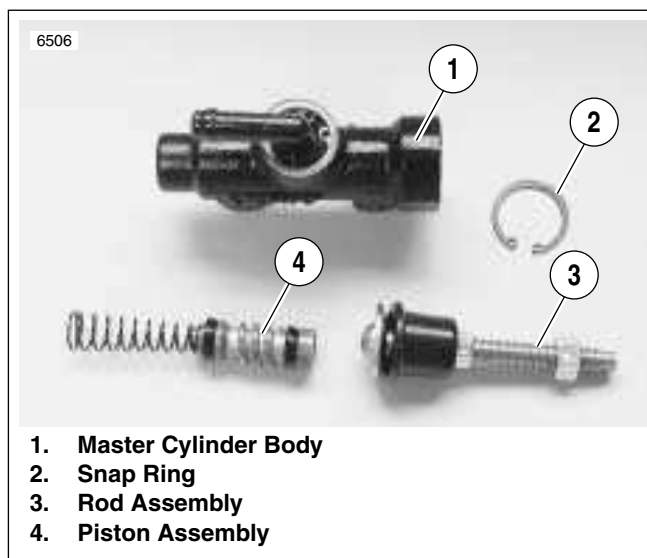

Figure 2-43. Master Cylinder Internals
1. See Figure 2-43. Slide rubber boot on rod assembly (3) away from master cylinder body (1).
2. Depress rod assembly (3) and remove internal snap ring (2). Discard snap ring.
3. Remove piston assembly (4) from master cylinder body.
1. See Figure 2-43. Insert piston assembly (4), spring first, into master cylinder.
2. Place round side of rod assembly (3) over piston. Depress piston into master cylinder body (1) and secure with a **new** snap ring (2).
3. Tuck rubber boot on rod assembly (3) into master cylinder body (1).